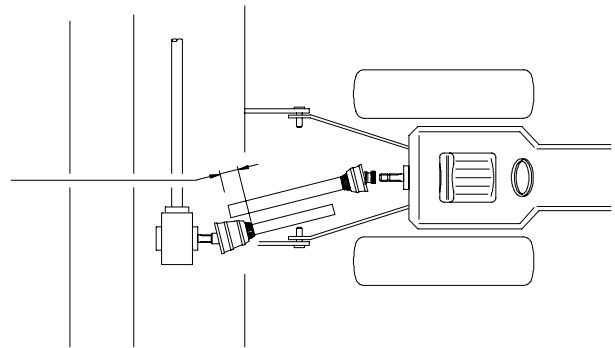

Figure 13
6. Line up both halves of the PTO so they are parallel to each other. Measure 1/2" back from the universal joint bell shield and mark on opposite half. Repeat this measuring to other half of the PTO (figure 13).